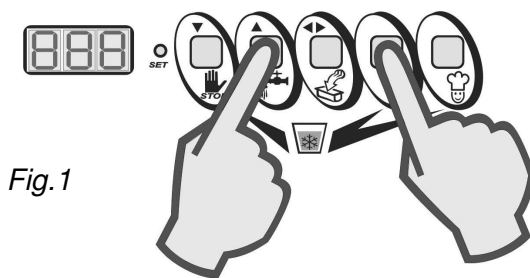

Fig. 1
3. With the machine at STOP, press **"AGITAZIONE (MIXING)"** and **"AUTOMATICO (AUTOMATIC)"** simultaneously and release them only after the password identification screen appears (Fig. 1).